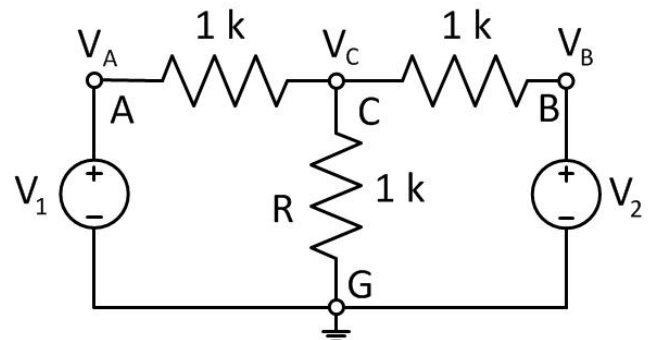

Fig. 1
Part A: For the circuit shown in Fig. 1, find the voltage V_C across resistance R for the cases listed in Table 1. Assume $V_1 = 12$ V, $V_2 = 5$ V and zero source resistances. Also repeat the same for $V_1 = 15$ V and $V_2 = 5$ V.
1. Assemble the circuit shown in Fig. 1. Use 0-32V and 5V sources of the multi-output DC power supply for realizing voltage sources V_1 and V_2 in the circuit.